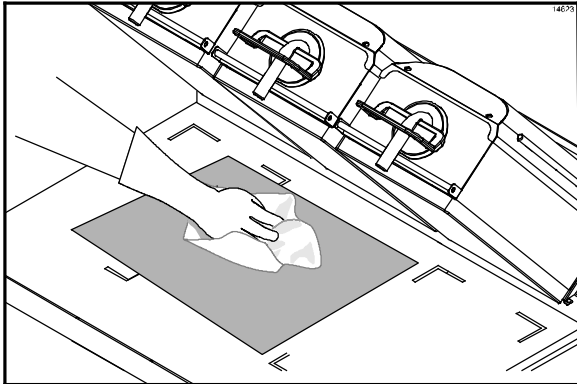

Figure 67
- 39. One at a time, place the upper and lower release sheets on the lower grill surface. Wipe both sides of each release sheet with a clean, sanitizer-soaked grill cloth. (See Figure 67.)